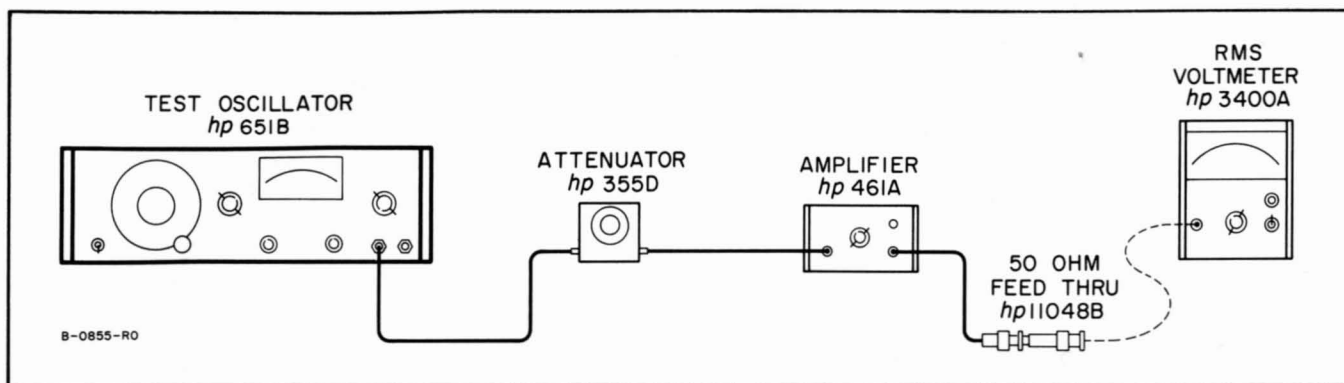

Figure 5-5. Attenuation Check
- a. Connect external attenuator, amplifier, and RMS voltmeter to 651B, as shown in Figure 5-5. Use an attenuator with known error.